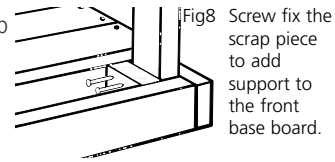

Fig8 Screw fix the scrap piece to add support to the front base board.
- Cut two 140mm pieces of scrap 90x45mm treated pine and screw to the inside face of the front shelf support (see fig 8). These two pieces will support the front base board.